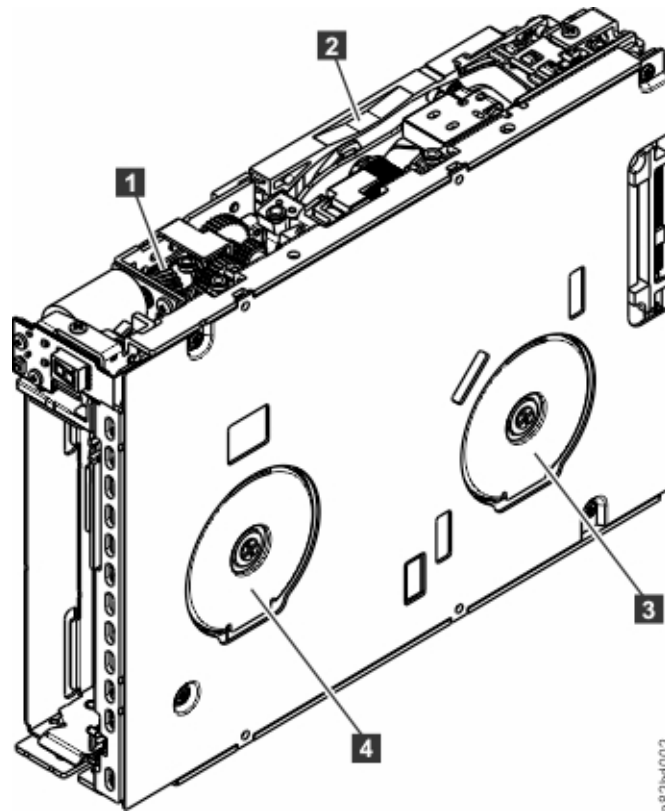

Figure 25. Rewinding tape into cartridge
2. Begin spooling the tape back into the cartridge by turning the supply reel motor (**4** in Figure 25 on page 87) clockwise.
3. Continue spooling into the cartridge until the tape is taut and remains within the flanges of the tape guiding rollers. Ensure that you do not stretch the tape. Continue spooling until all tape is removed from the takeup reel (**3** in Figure 25 on page 87).